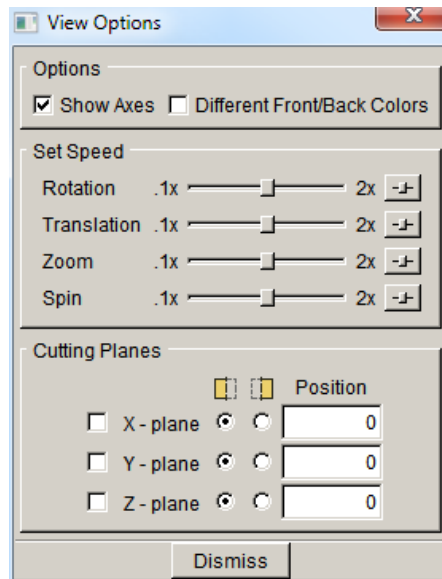

Figure 2.1.2 View Options dialog.
**View Options:** This button displays the dialog in Fig 2.1.2. In this dialog, the Show Axes turns the Cartesian axes display on or off. The Different Front/Back Colors turns the front/back coloring on or off. By default, the front and back sides of a surface are shaded differently. This toggle is useful when looking at the crack surface, where the two surfaces are coincident. The Set Speed sliders allow one to control the rotation, translation, zoom and spin speeds independently. The Cutting Planes option allows one to define cutting planes normal to the global Cartesian axes. These will cut away a portion of the model. These are independent from the front and back clipping planes.